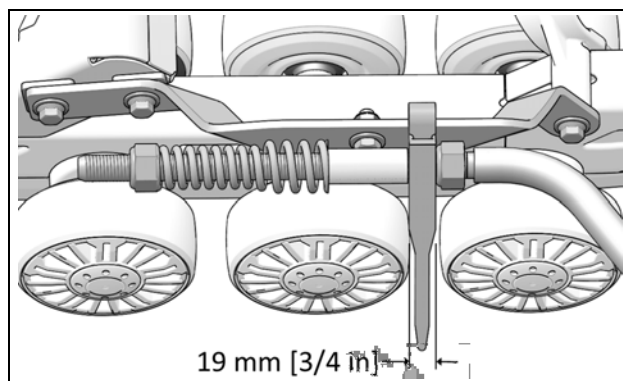

Figure 15
- IMPORTANT:** Double-check 19 mm minimum distance between nut and stabilizing arm guide. Re-adjust as needed. See Figure 15.